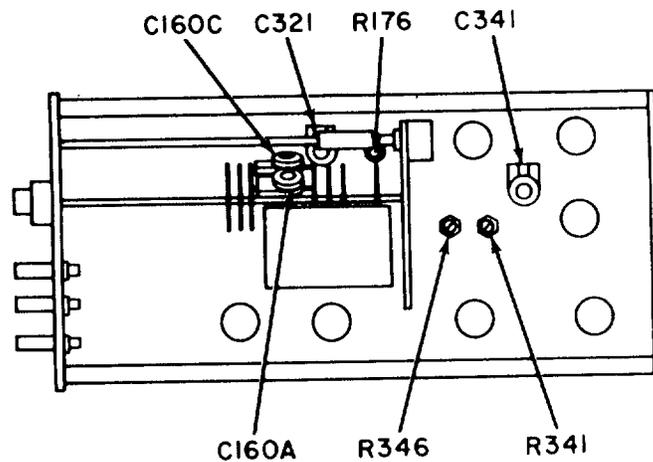

Figure 1. Adjustment locations - right side view.
(2) Connect time-mark generator (A3) to dual trace plug-in (part of A2) CH 1 input, using cable (B2).
(3) Set time-mark generator to 1 mS markers.
(4) Adjust plug-in (part of A2) controls for 4 major divisions of amplitude on oscilloscope (A2) crt.
(5) Readjust TI LEVEL control as required for stable display on oscilloscope crt.
(6) Adjust TI POSITION control to aline second marker with second vertical graticule line. If 10th marker is not within ± 2.5 minor divisions of 10th vertical graticule line, perform **b** below.
(7) Set TI 5X MAG. switch to off (pushed in) position.
(8) Repeat technique of (3) through (6) above, using switch positions and values listed in table 4. At each setting, if 10th marker (1/div) or 18th marker (2/div) is not within ± 1.5 minor divisions of 10th vertical graticule line, perform corresponding adjustments listed in table 4 and shown in figure 1.
(1) Adjust R176 (fig. 1) until 5 markers are displayed beyond 11th graticule line.
(2) Adjust R346 (fig. 1) until first marker is alined with center graticule line (R).
(3) Pull out 5X MAG. switch and, if required, repeat **a**(5) and (6) above.